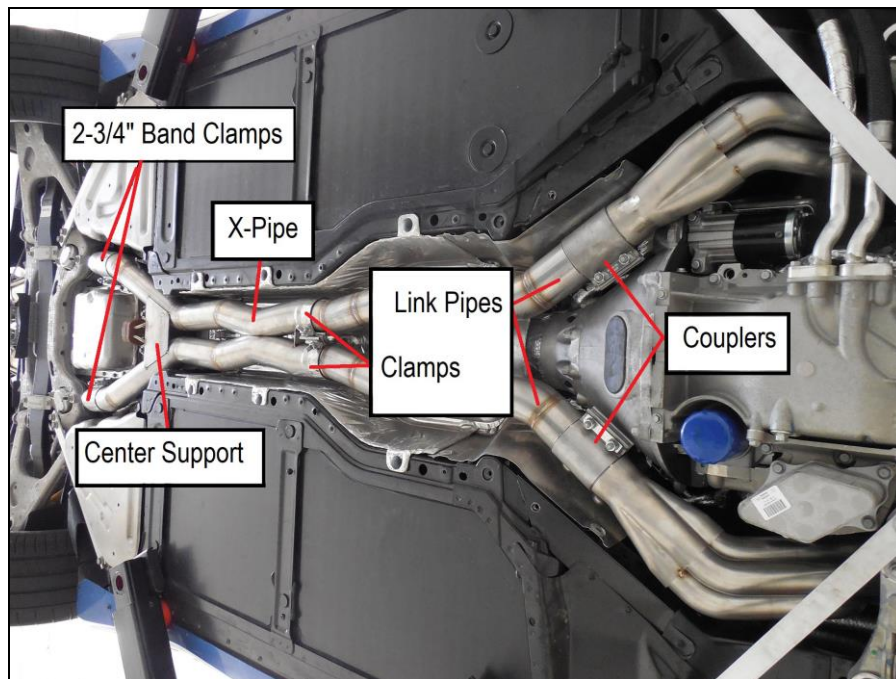

Figure 1
4. Install the 76mm band clamps on to each inlet pipe of the Blackheart X-pipe (expanded end with notches). The clamps need to be configured so the threaded stud of the clamp is positioned to align with the cut out in the lower skid plate (**Figure 1**).
5. Install the **RIGHT** header link pipe (longer link pipe) into the X-pipes short expanded end. (**Figure 1**). Tighten the clamp to allow for adjustment.
6. Install the **LEFT** header link pipe (short link pipe) into the X-pipes long expanded end (**Figure 1**). Tighten the clamp to allow for adjustment.